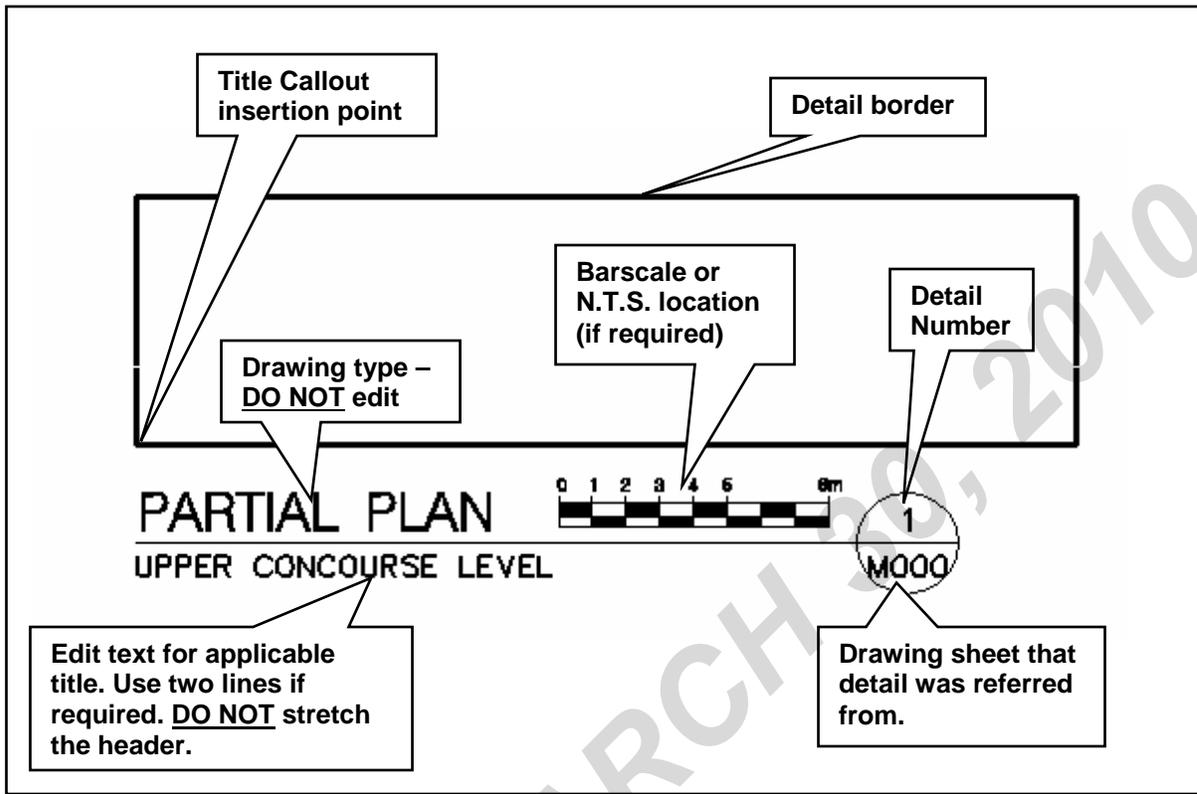

Figure 35b –Sub-Title Header (Referred to by a single sheet)
- **Sub-Title Header – Referred to by a single sheet** (See Figure 35b). Inserted into drawing body for details that have been referred to by a single sheet.